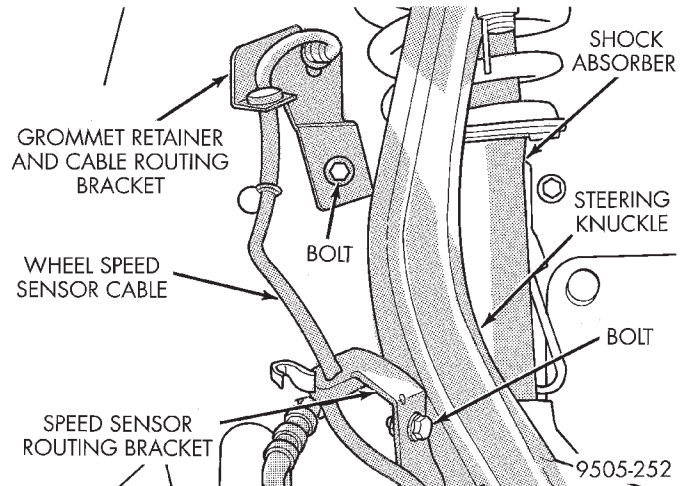
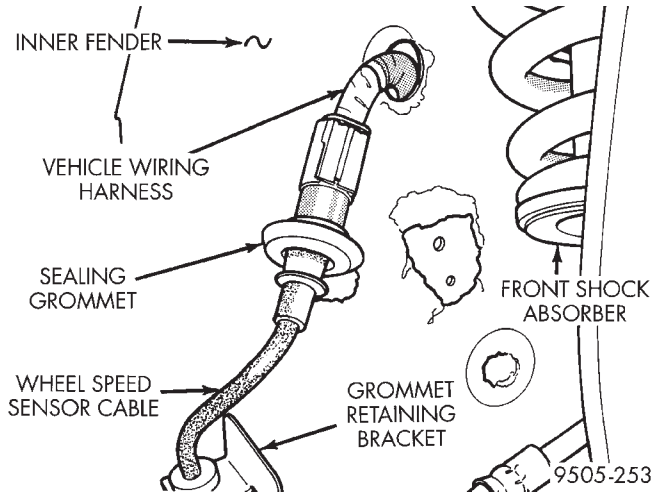
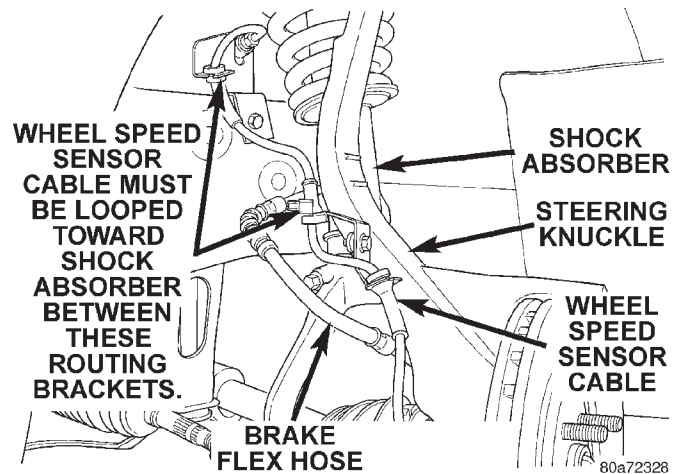

Fig. 39 Speed Sensor Cable Routing Brackets
Fig. 40 Wheel Speed Sensor Connection To Vehicle Wiring Harness
Fig. 43 Correct Front Wheel Speed Sensor Cable Routing
- (1) Raise vehicle on jack stands or centered on a frame contact type hoist. See Hoisting in the Lubrication and Maintenance section of this manual, for the required lifting procedure to be used for this vehicle.
- (2) Remove the tire and wheel assembly from the vehicle.
- (3) Remove the speed sensor cable routing bracket (Fig. 39) from the steering knuckle. Remove the wiring harness sealing grommet retainer and speed sensor routing bracket from the inner fender.
- (4) Remove speed sensor sealing grommet from the inner fender (Fig. 40). Then unplug the speed sensor cable from the vehicle wiring harness (Fig. 40).
- (1) Connect the wheel speed sensor cable connector to the vehicle wiring harness (Fig. 40).
- (2) Install the speed sensor cable assembly grommet into the front inner fender (Fig. 40). Install speed sensor cable grommet retainer/routing bracket on the inner fender of the vehicle and install and securely tighten attaching bolt (Fig. 39).
CAUTION: When installing the wheel speed sensor cable routing bracket on the steering knuckle, (Fig. 39) the speed sensor cable must be looped toward the shock absorber as shown in (Fig. 43). If speed sensor cable is not routed in this direction it will rub against the tire or wheel, damaging the speed sensor cable.